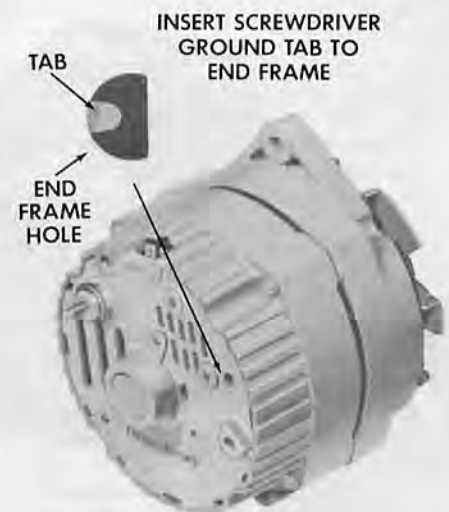

Figure 7—Grounding generator field winding. (Wiring connections not shown.)
- g. If ampere output is not within 10 amperes of rated output, determine if test hole (Fig. 7) is accessible. If accessible go to Step h. If not accessible go to Step i.
- h. Ground the field winding by inserting a screwdriver into the test hole (Fig. 7). **CAUTION:** Tab is within $\frac{3}{4}$ inch of casting surface. Do not force screwdriver deeper than one inch into end frame.